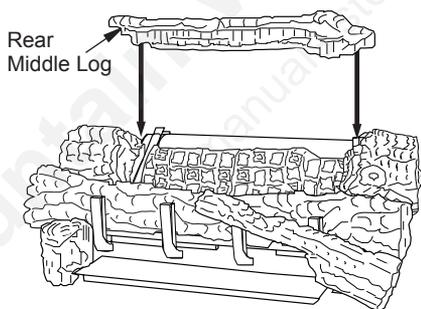

Figure 30 - Installing Rear Middle Log
- The rear middle log should fit between the ramp log and the rear burner. The left and right middle logs have recessed areas for the rear middle log to sit into (See Figure 30). Be careful not to push the rear burner out of position while installing this log.